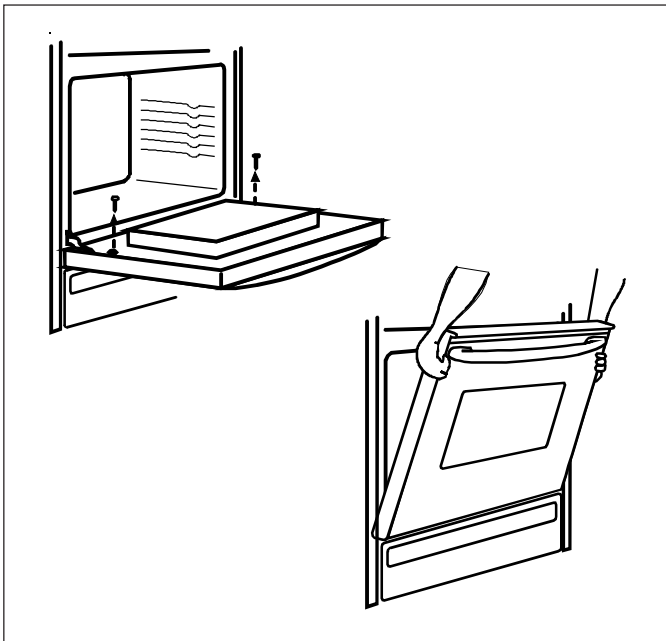

Figure 40
3. See Figure 40. Close door to first stop, grasp door firmly on each side, and lift upward until door is off hinges.